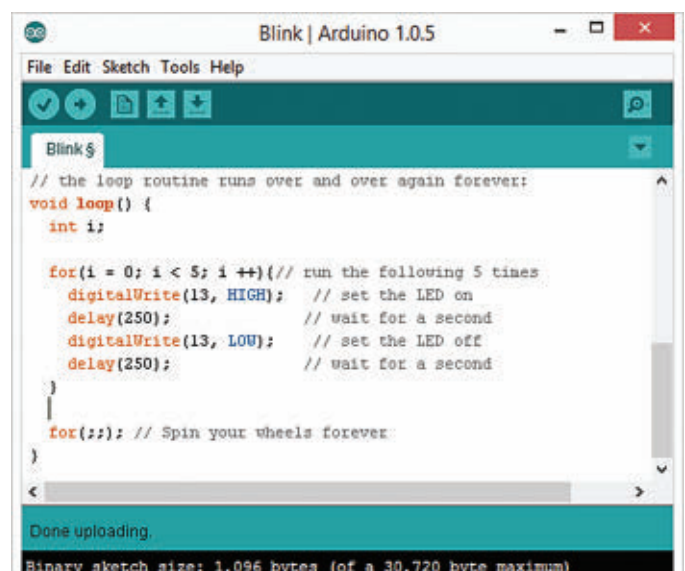

FIGURE 7: Blink modified to count.
- ☐ Type into the *loop()* function the code shown below and in **Figure 7**: